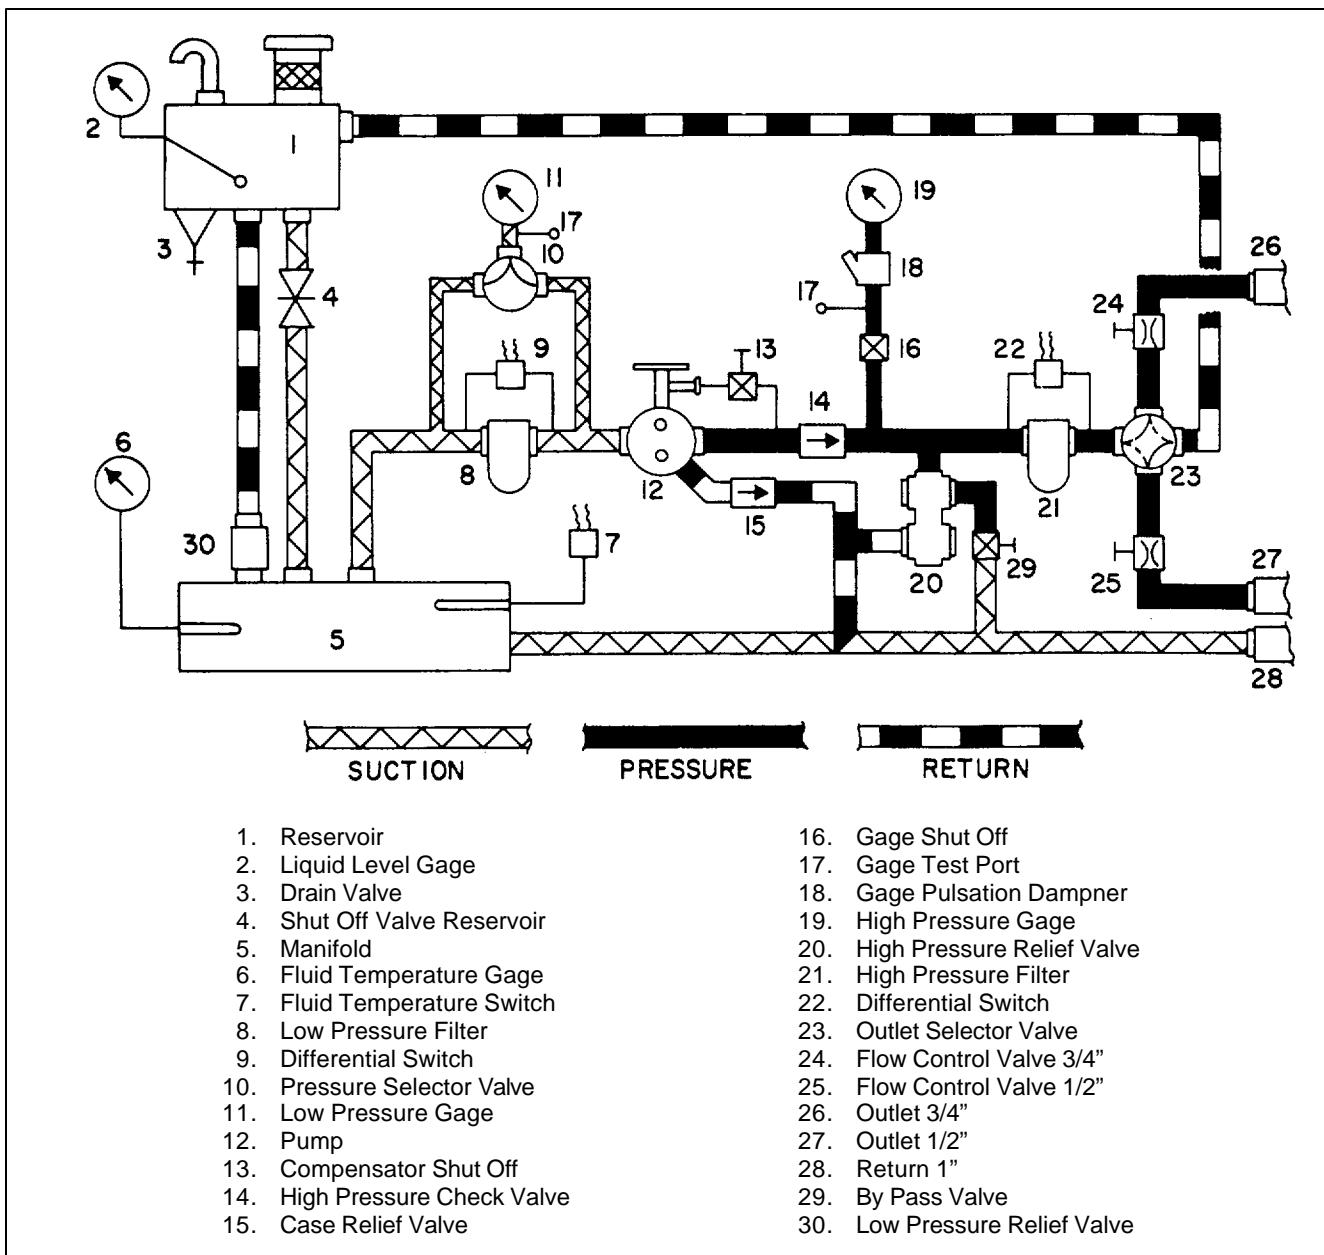

Figure 1-6. Hydraulic System Schematic
1-18. SIMPLIFIED PRINCIPLES OF OPERATION. (Refer to hydraulic schematic, figure 1-6.) The hydraulic fluid may be taken from either the Test Stand reservoir (1) or the reservoir in the aircraft being tested through the suction inlet. The hydraulic fluid thus obtained is then forced under pressure by the high pressure pump (12) through checkvalve (14), high pressure filter (12), relief valve (20), and a four-way outlet selector valve (23) to the selected pressure outlet (26 or 27).